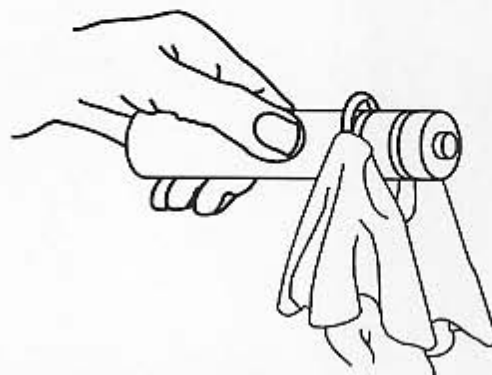

Fig. 7
- Remove the o-rings from the spigot plunger by grasping the plunger with one hand and with a dry cloth in the other hand, squeeze the o-ring upward. When a loop is formed, grasp the o-ring with the other hand and roll it out of its groove and off of the plunger (Fig. 7).